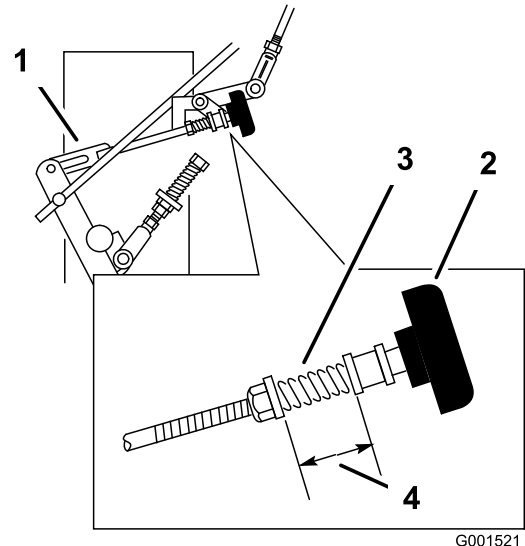

Figure 40
- Adjust the right side linkage by turning the quick track knob counterclockwise until the tire begins to rotate forward (Figure 40).
- Turn the knob clockwise 1/4 of a turn at a time. Then move the speed control forward and back to neutral. Repeat this until right wheel stops rotating forward (Figure 40).
- The spring that keeps tension on the knob should normally not need adjustment. However if an adjustment is needed, adjust the length of spring to 1 inch (26 mm) between the washers (Figure 40).
- Adjust spring length by turning nut at front of spring (Figure 40).